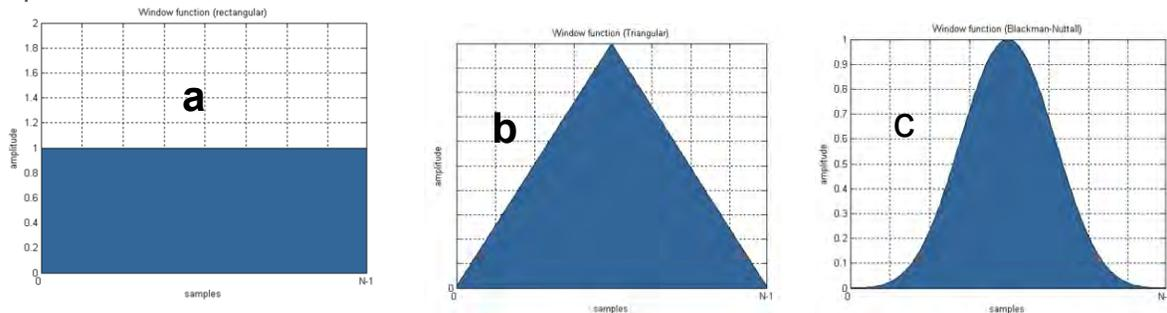

Figure 19: Filter types for the Background Subtraction Filter. (a) Rectangular, (b) Triangular (c) Blackman-Nuttall
- **Blackman-Nuttall** filter type applies more weight to the trace in the center of the window and less to the traces on the edges of the window but uses a shape similar to a Gaussian curve (Figure 19)